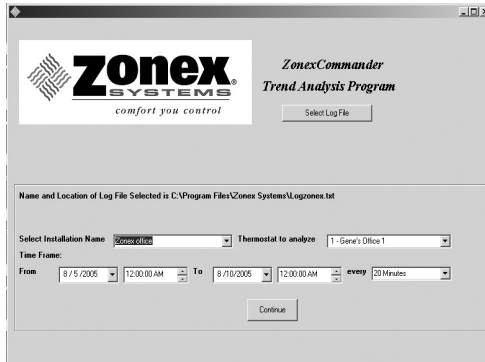

Fig. 35
- When the file is retrieved, use the **drop down box** to select your installation name, thermostat number, and date and time range; then click the **Continue** button (see Fig. 35). Multiple buildings can be accessed via the trending program, and files can be saved under various names.